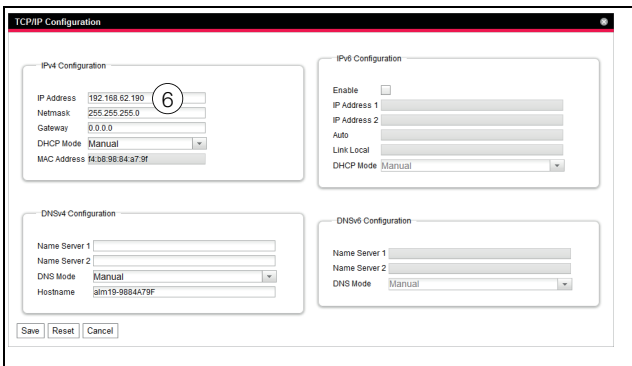

Fig. 38: Customise the TCP/IP settings
- In the **TCP/IP Configuration** window, change the device's IP address in the **IPv4 Configuration** group box to an address permitted in the network (fig. 38, item 6).